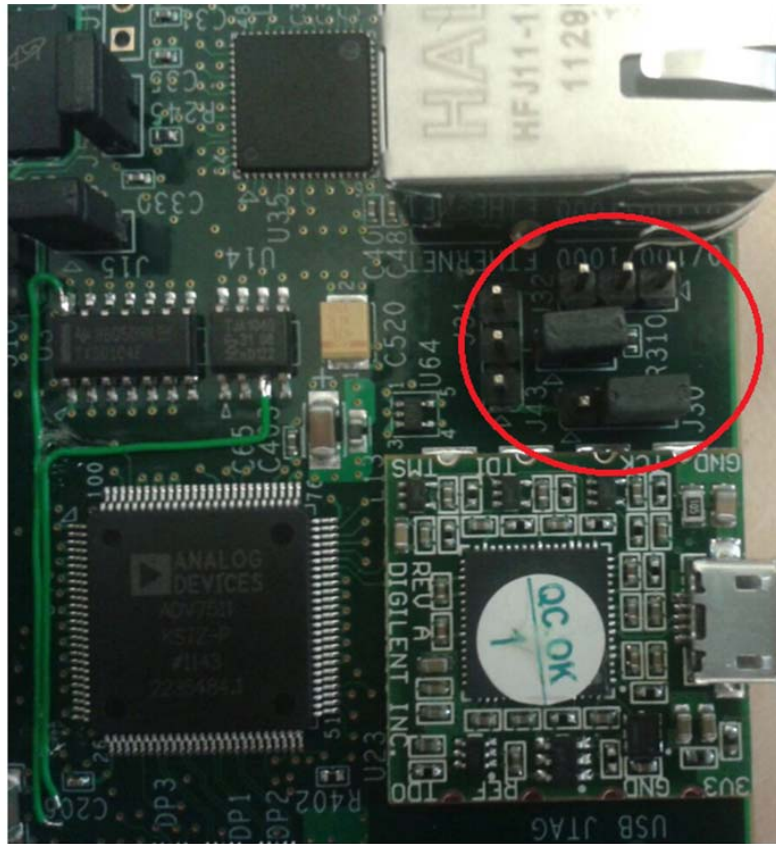

Figure 5-3: Change Jumpers J30 and J43
4. Change Ethernet Jumper J30 and J43 as shown in Figure 5-3.